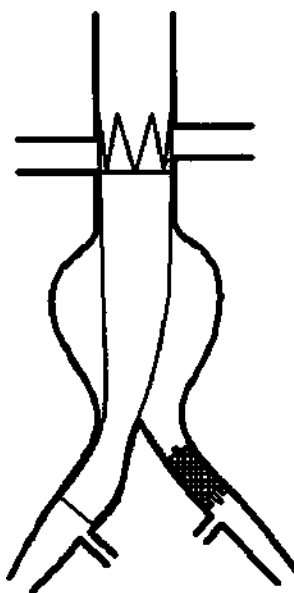

Fig. 10 Plug placement
- Place a plug in the other side of iliac artery. (Fig. 10)